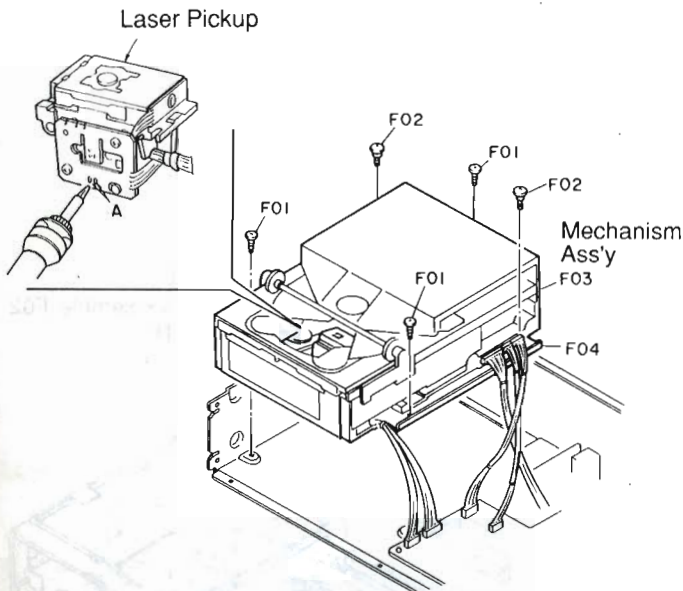

Fig. 2.1
- (1) Remove the Tope Cover.
- (2) Turn ON the power and press the Eject/Load button to eject the Tray Ass'y.
- (3) Remove the Tray Panel Ass'y from the Tray Ass'y upwardly.
- (4) Press the Eject/Load button to load the Tray Ass'y.
- (5) Turn OFF the power and unplug the power cord from the wall outlet.
- (6) To disassemble the Front Panel Ass'y, remove 4 screws at both ends and 4 screws (3 screws for MB-3s) on the bottom.
- (7) Shortcircuit the lands "A" of the Laser Pickup. Refer to Fig. 2.1.